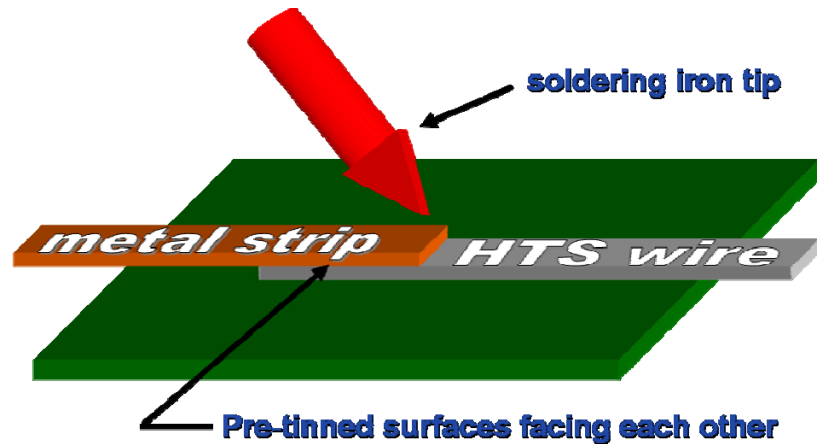

Figure 4. Method of positioning HTS wire and current lead for solder assembly
- a. Position the HTS wire and lead together with the desired overlap and tinned surfaces facing each other as shown in Figure 4. A heat-tolerant adhesive tape can be used to secure the tapes during soldering. The tape should be placed at a sufficient distance from the solder joint to avoid exposing it to excessive heat.